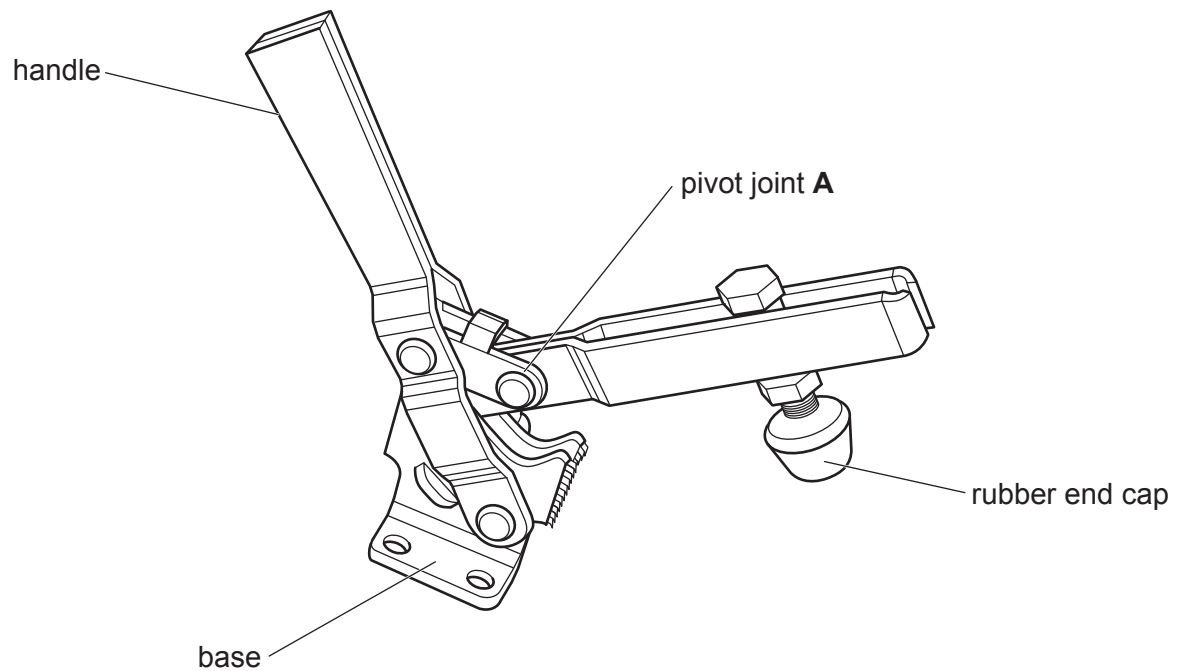

Fig. 3.1
- 3 Fig. 3.1 gives details of a toggle clamp which is to be made in a school workshop. The toggle clamp is made from 2 mm thick steel plate.